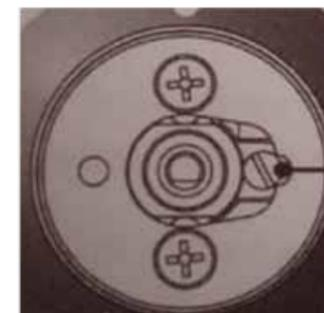

Figure 1
## Minimum flow of cooking hob taps (Figure 1)
- Using a screwdriver, adjust the internal screw until the correct low flame is obtained, the screw is located just to the right of the shaft see figure 1